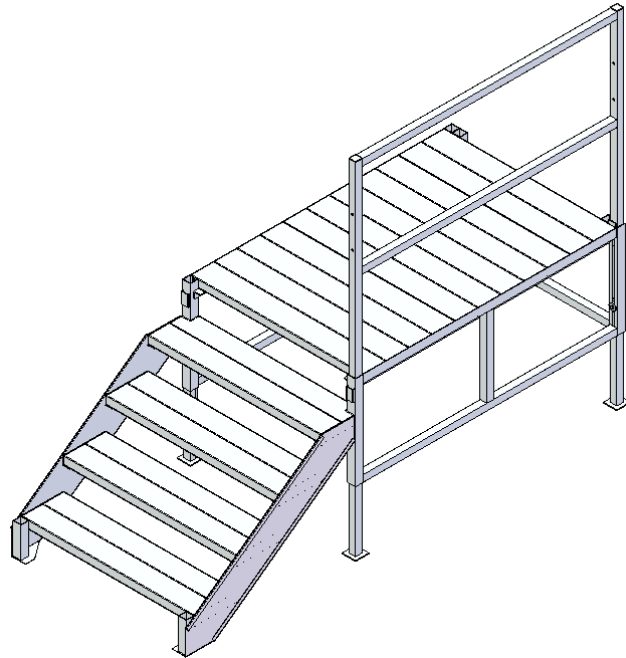

Figure 4: Side rail assembly.
-Insert the side rail into the corner pockets of the platform as shown in **Figure 4**. *Note: The side rail can be inserted on the left or right side of the platform depending on the orientation of the step assembly to the building.*